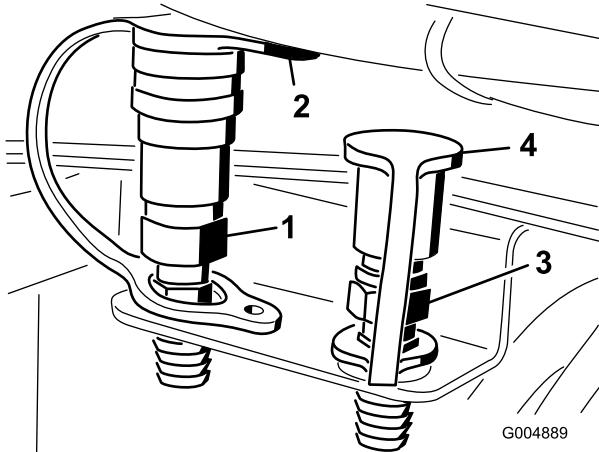

Figure 16
- Install a dust plug onto the quick disconnect coupler and insert the barbed end of the coupler into the outer (left) hole in the bulkhead bracket (Figure 16).
11. Install a dust cap to a nipple coupler and insert the barbed end of the coupler into the inner hole in the bulkhead bracket (Figure 16).